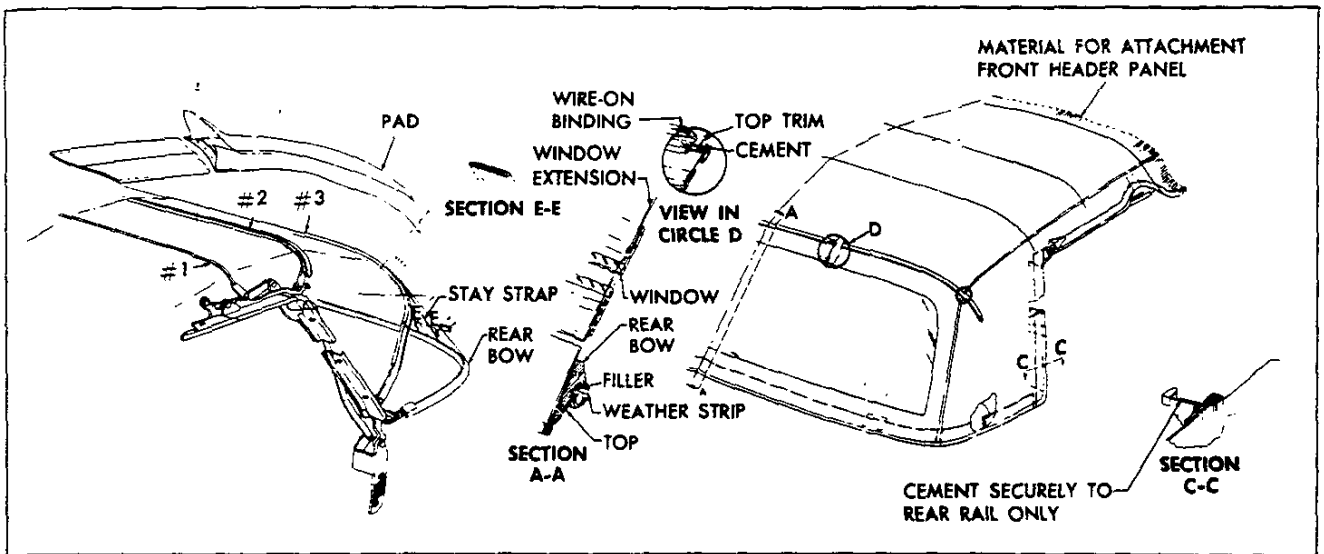
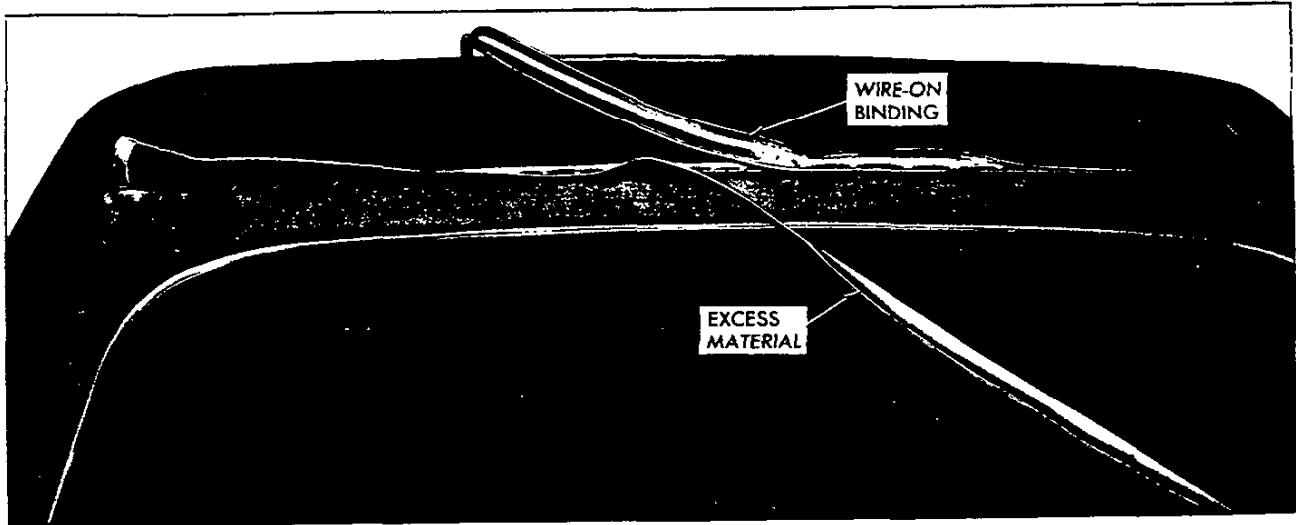
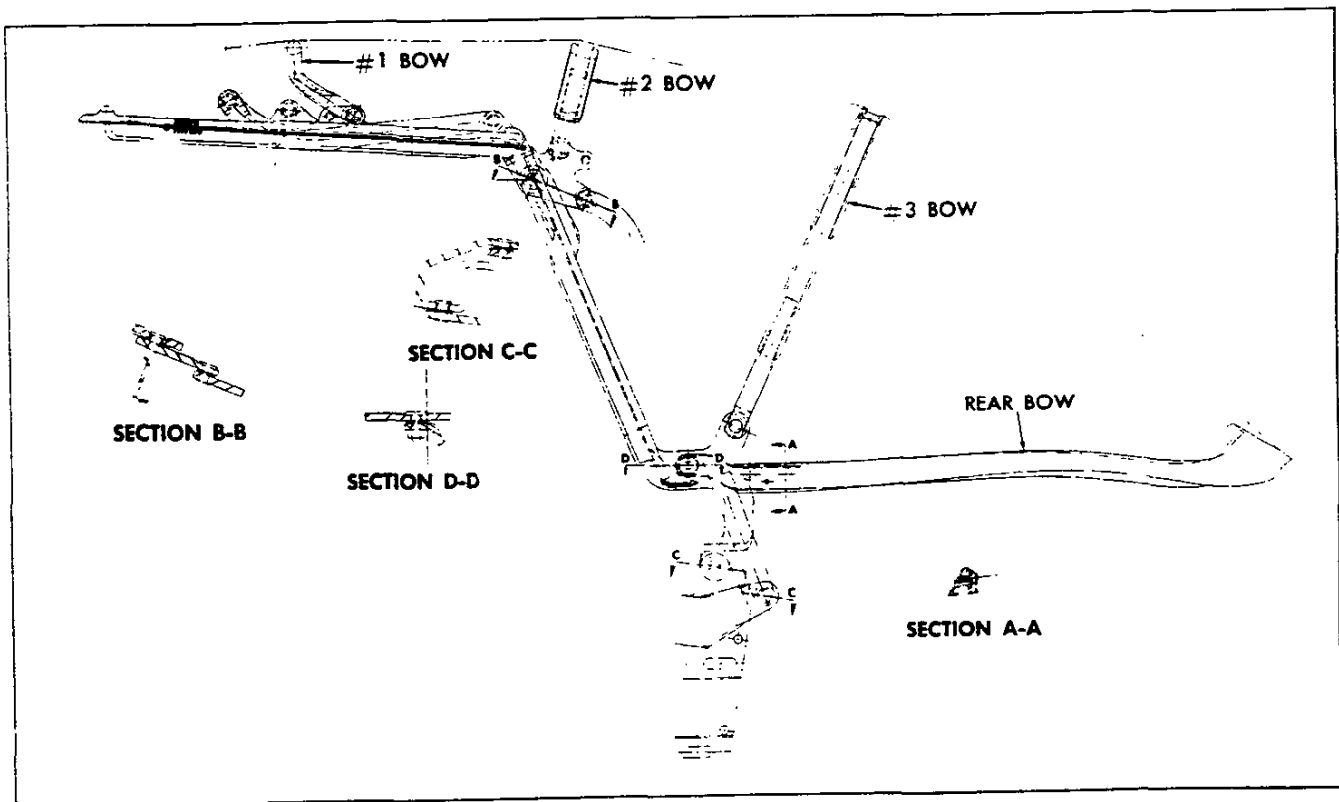

Fig. 69—Folding Top Trim Installation
Fig. 76-Installing Binding
Fig. 77-Top Frame and Linkage
The following information deals with removal and installation of the folding top trim and window assembly complete. Figure 69 may be referred to for parts identifications. Lettered sections (i.e. Section A-A) referred to in the instructions may also be found in Figure 77. Note that the sections are illustrated as they would appear if the parts were cut through on the lettered lines on the top assembly and the cut surface exposed. Arrows indicate direction in which you would have to look in order to see the view shown.
8. Draw window extension up to #3 bow, aligning centering marks. Turn an ample amount of fabric under and tack to #3 bow. Apply neoprene trim cement, GM Part #3695016 or equivalent, to area shown in View D of Figure 69. Follow directions on package.
10. Trim off excess material and install wire-on binding as shown in Figure 76 and View D of Figure 69. Install binding caps.
Figure 77 illustrates construction features of the folding top frame and linkage. Various cross sections in Figure 77 show the pivoting joints and their assembly.
CENTER ROOF REINFORCEMENT TRIM REMOVAL (Fig. 77)